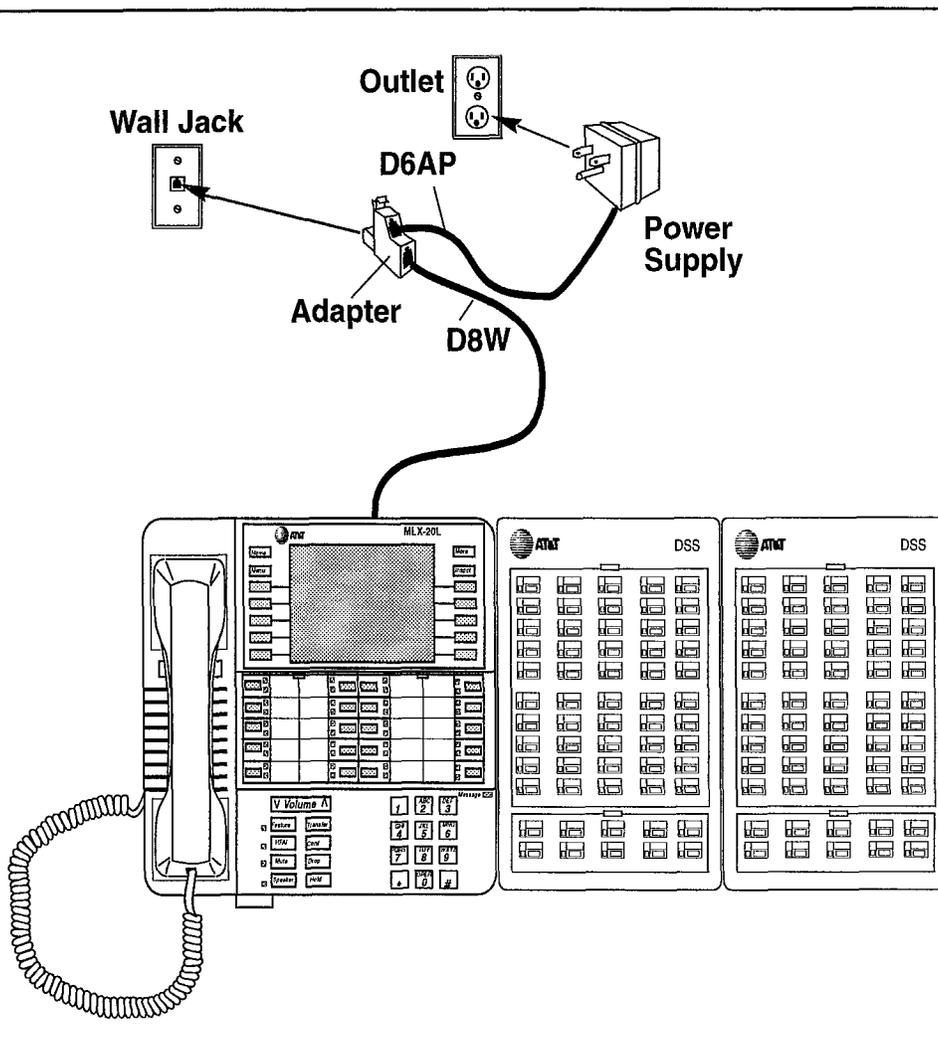

Figure 3-50. Connecting the MLX Telephone to the Wall Jack
8. Connect the telephone (see Figure 3-50).
8. Connect the telephone (auxiliary power is required; see Figure 3-50).